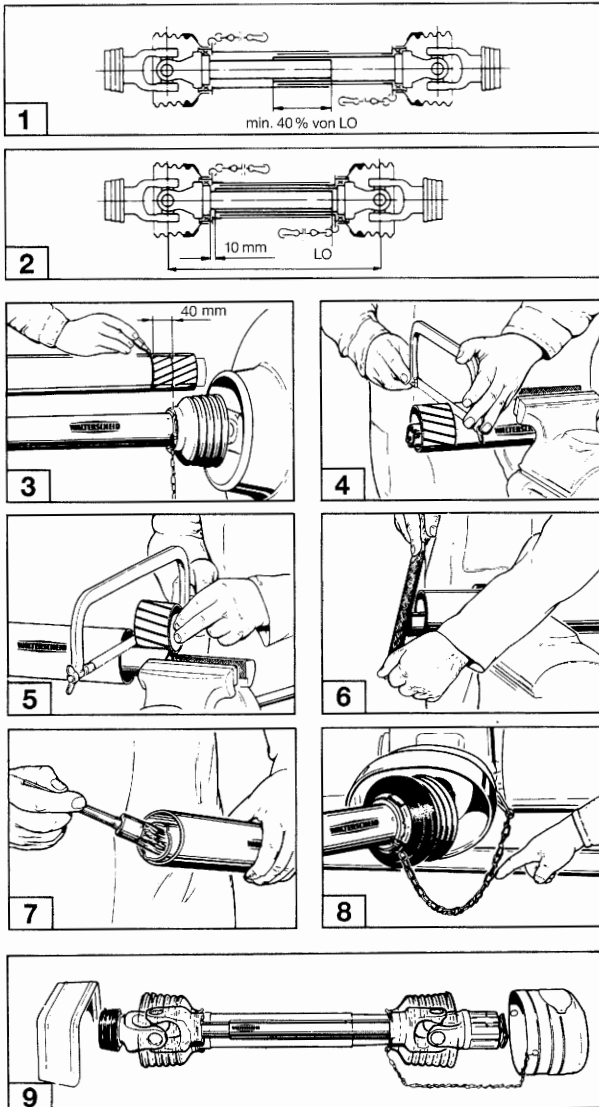

Fig. 5.2
**When fitting for the first time, match pto shaft to tractor according to Fig. 5.2. As matching only applies to one type of tractor, check pto-shaft matching when changing tractors.**